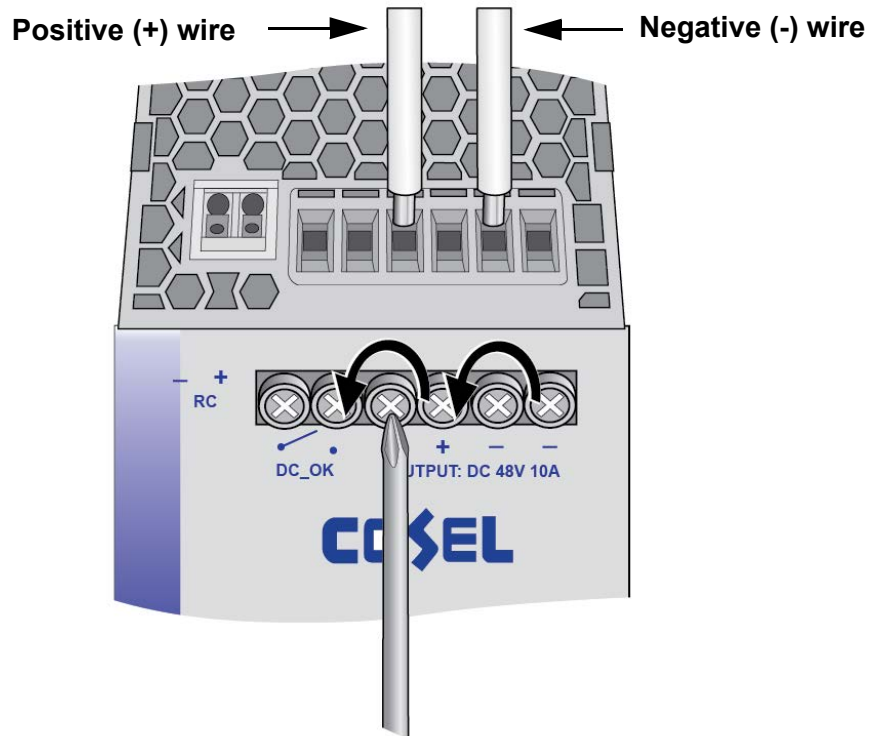

Figure 14. Installing DC Output Power Wires
3. Loosen the screws for one positive (+) connector and one negative (-) connector on the front panel of the power supply and insert the wires into the connectors on the top panel. The positive connectors are connected internally in the power supply. The negative connectors are also connected internally. You can use either of the positive connectors with either of the negative connectors. Refer to Figure 14 on page 56.